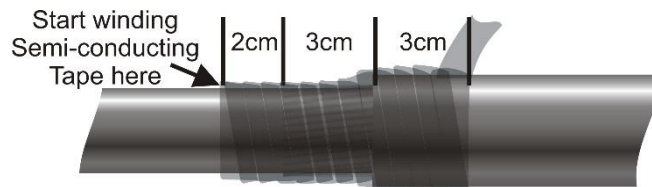

Figure 6.
7. Using the semi-conductive tape provided, starting 2 cm in front of the end of the outer copper screen tape (or 5 cm in front of the black outer sheath), stretch and wrap the tape back over the tape and 3 cm over the black with 50% overlap, securing the outer copper screen tape in place. This should use approximately 50 cm of the tape. (Fig 6) **Note: DO NOT cut the tape at this stage.**